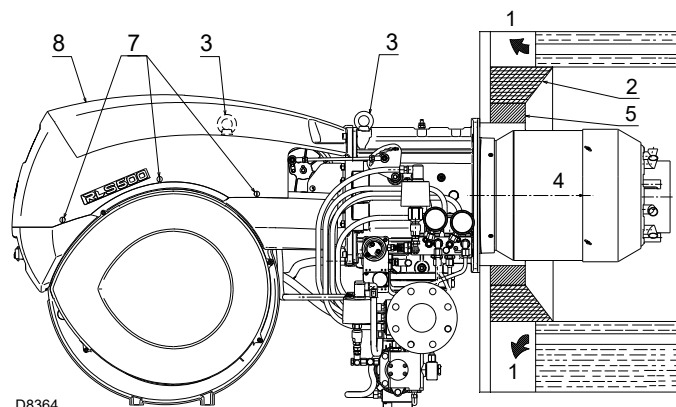

Fig. 12
For boilers with front flue passes 1)(Fig. 12) or flame inversion chamber, a protection in refractory material 5) must be inserted between the boiler fettling 2) and the blast tube 4).
For boilers with a water-cooled front piece, a refractory lining 2)-5)(Fig. 12) is not necessary, unless expressly requested by the boiler manufacturer.
Prepare a suitable lifting system using rings 3)(Fig. 12).
- Fit the heat insulation supplied onto the blast tube 4) (Fig. 12).